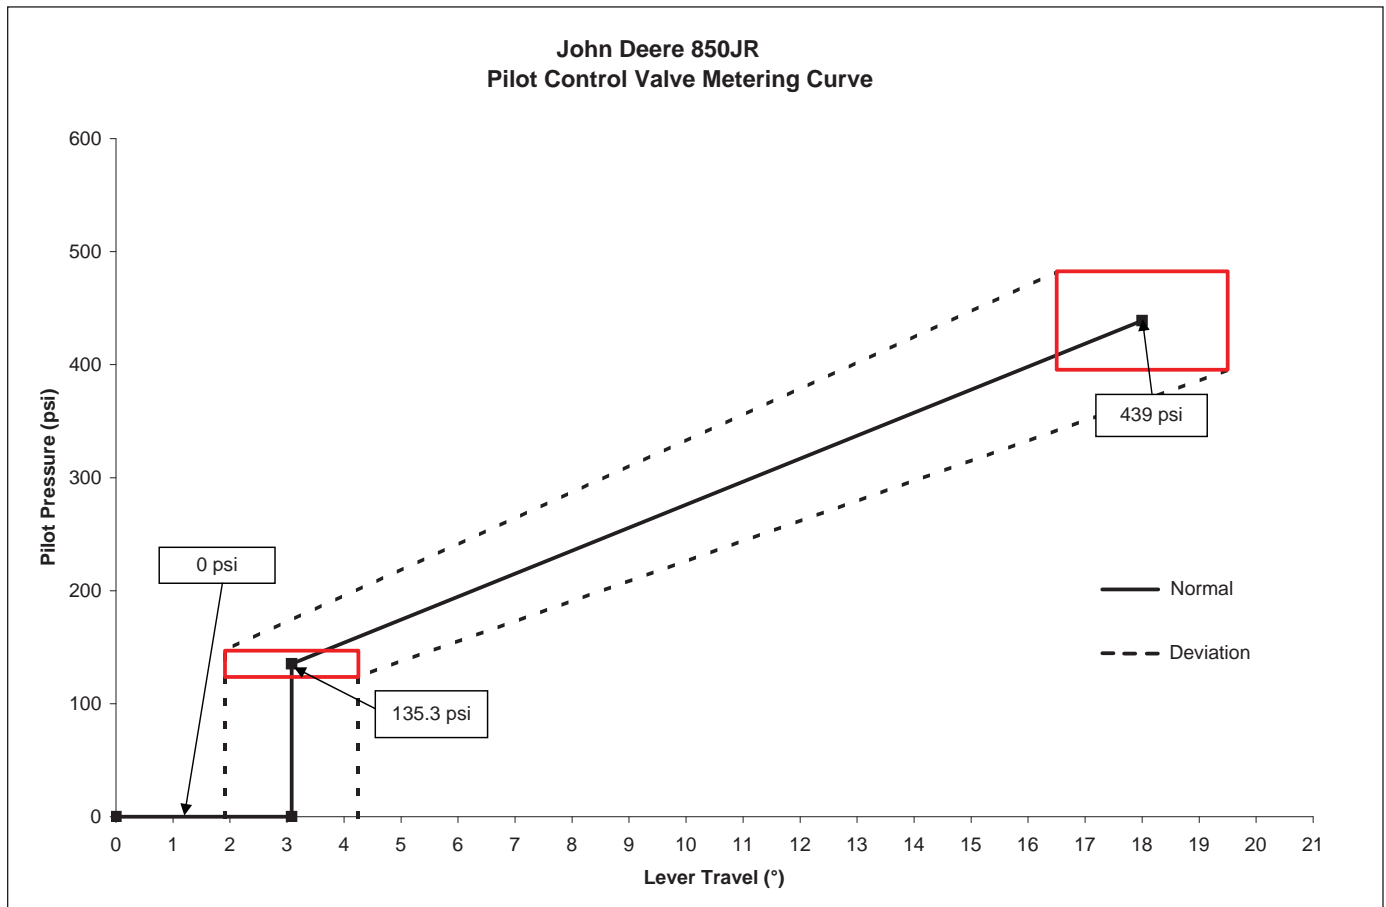

Figure 2-1 Output Pressures from Pilot Controller Unit on Control Lever vs. Angle of Lever Deflection
3. Check winch hydraulic pressures. Start with control pressures (see Figure 2-1), then check main system pressures.